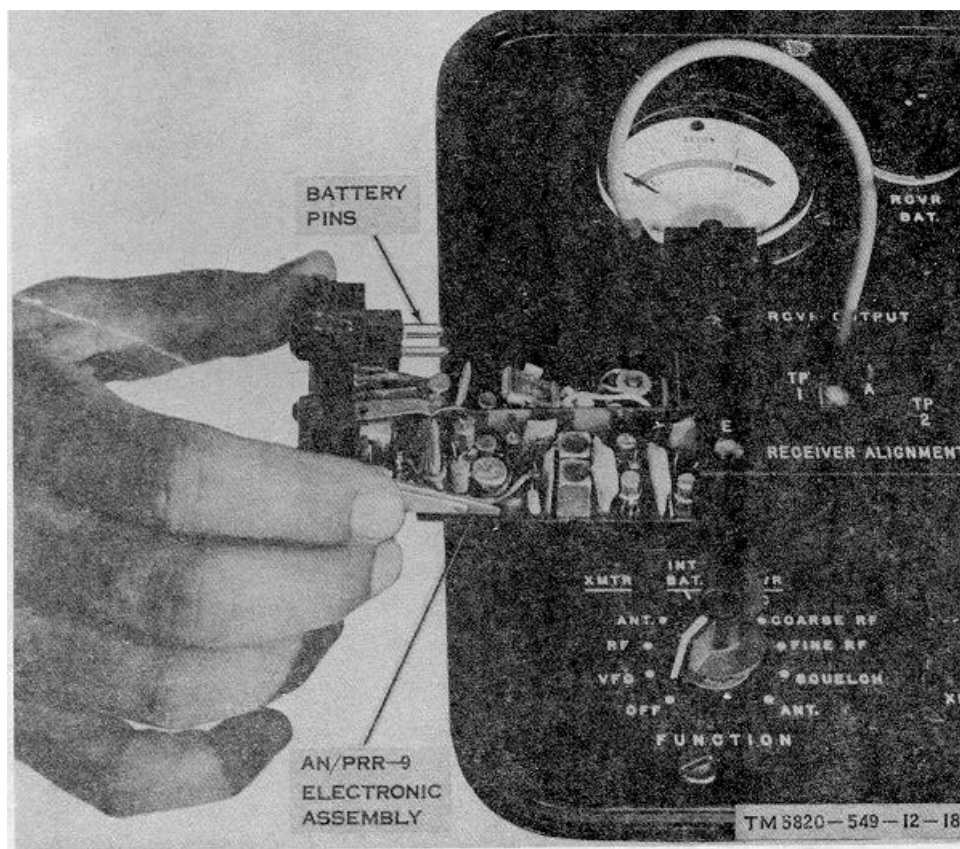

Figure 3-4. Indicator, Channel alignment ID-1189/PR-9 alignment position.
b. Preparing AN/PRR-9 for Alignment. Remove the AN/PRR-9 electronic assembly from its case (TM 11-5820-549-12). Slide the AN/PRR-9 electronic assembly, component side up, into the ID-1189/PR RECEIVER ALIGNMENT receptacle (fig. 3-4). Guide the battery pins of the AN/PRR-9 electronic assembly into the receptacle at the top left part of the RECEIVER ALIGNMENT receptacle. The AN/PRR-9 adjustments and test points are then accessible through the holes in the top plate of the RECEIVER ALIGNMENT receptacle. Tighten the receiver screw (fig. 3-1) under the electronic assembly headset jack so that the electronic assembly is held firmly in the RECEIVER ALIGNMENT receptacle.